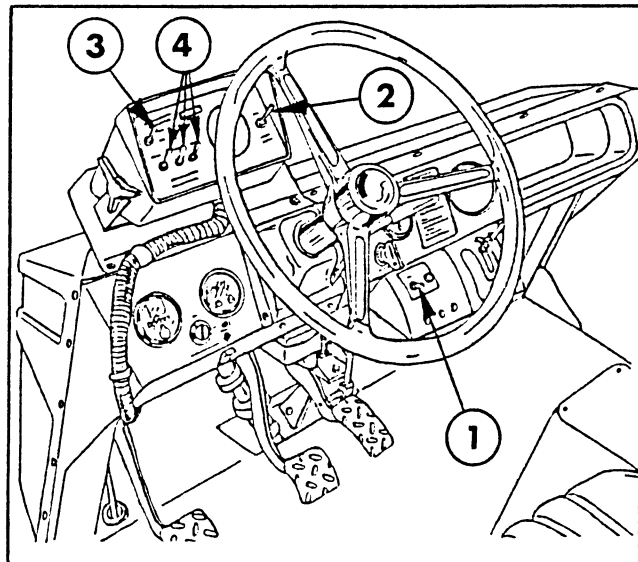

FIG. 1
(FIG 1): This switch located on the lower dash panel, when moved to the "ON" position, engages the pump drive belt. Move the switch to the "OFF" position to disengage the pump drive belt.
**PRESSURE ADJUST SWITCH** (FIG 1): Hold to INCREASE or DECREASE spraying pressure to desired level. Located on Control Console.
**MASTER ON/OFF SWITCH** (FIG 1): Activates all three Boom Valves to control the flow of spray solution to the Boom sections. Located on Control Console.
(FIG 1): Allows individual selection of Boom sections and controls the flow of spray solution to left (Boom #1), center (Boom #2) or right (Boom #3) Booms.